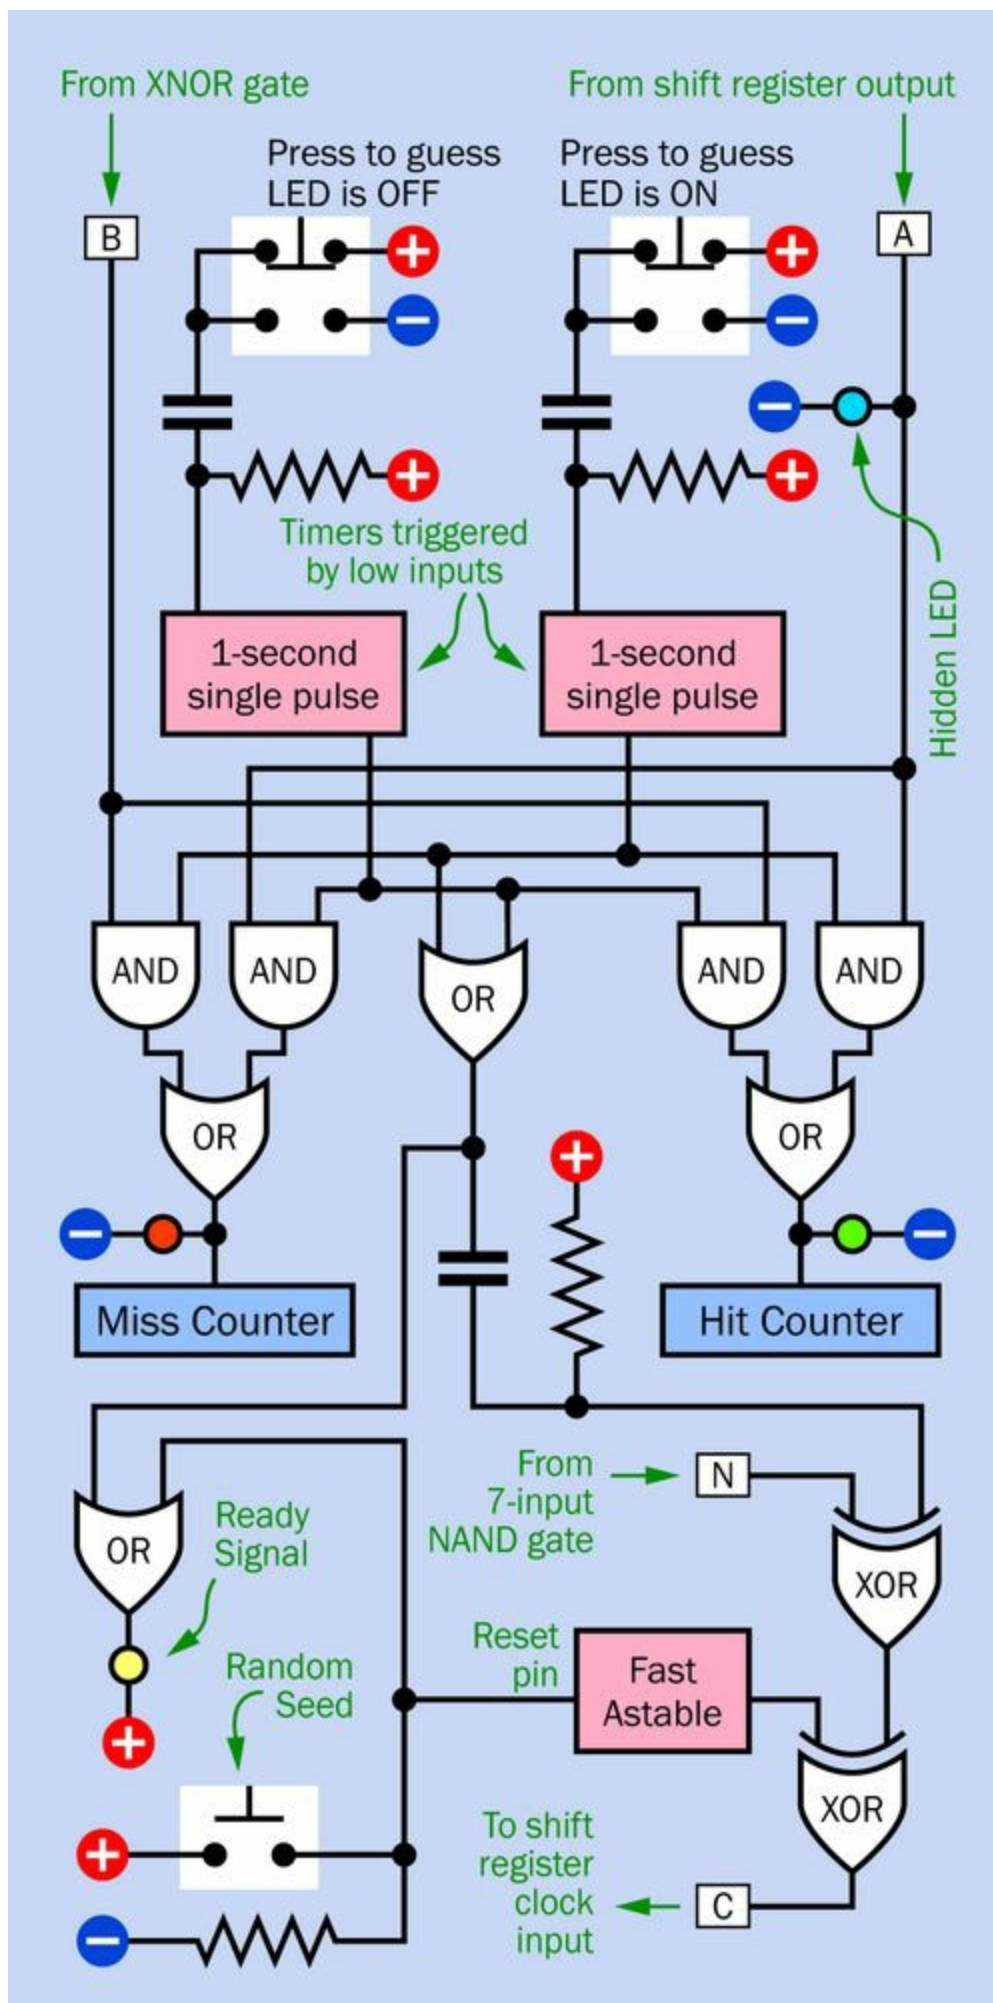
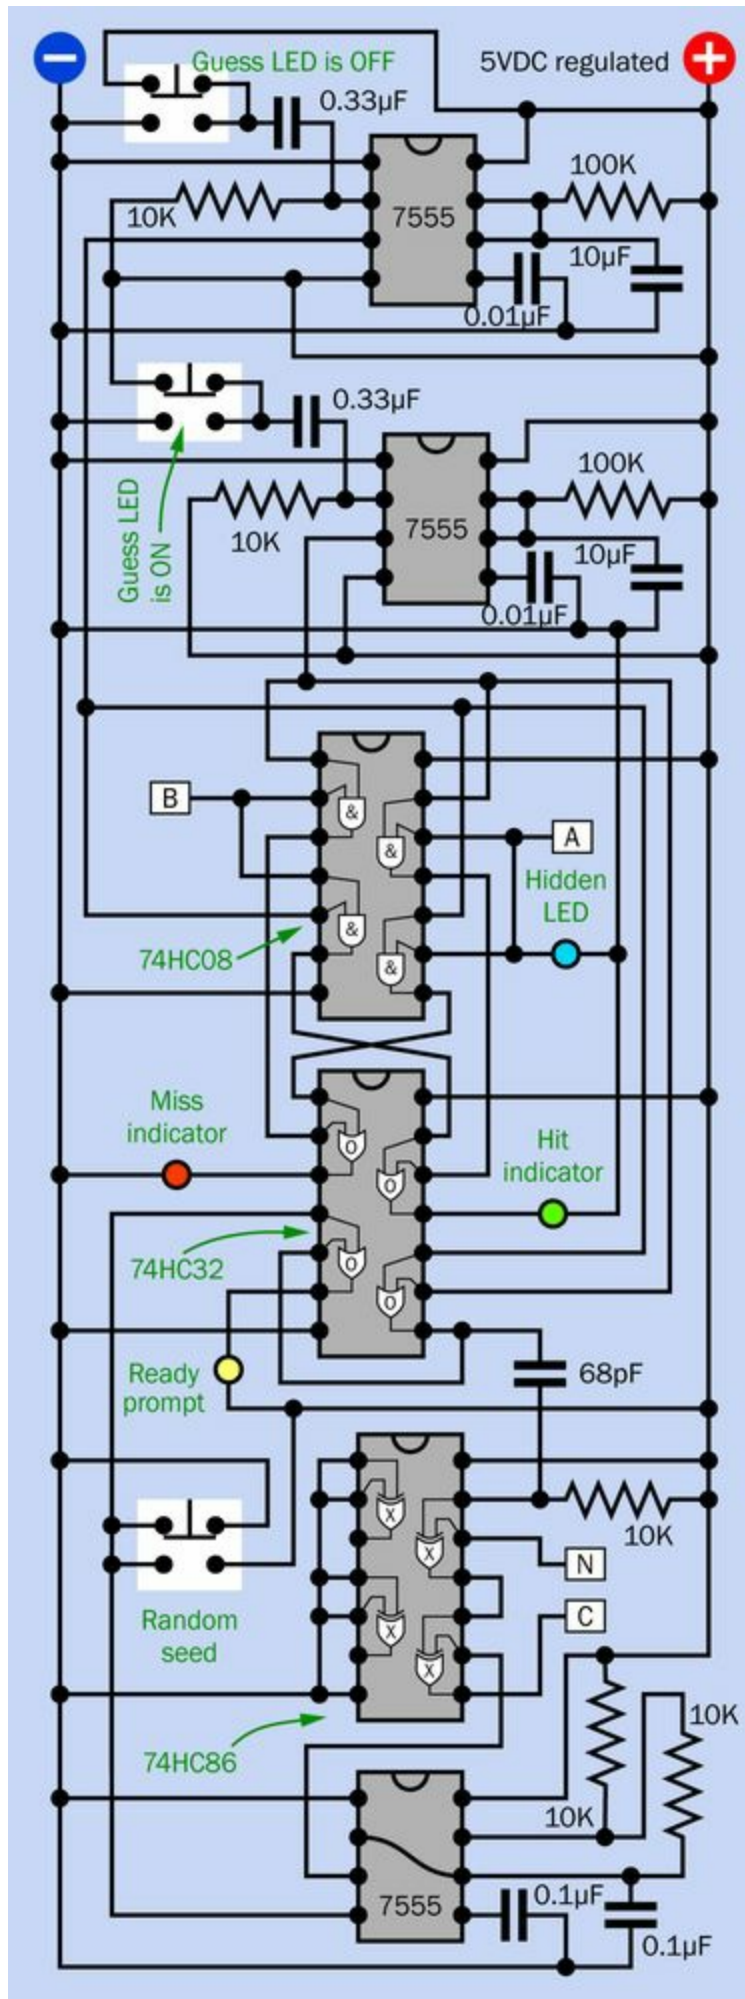

Figure 36-3. Part 2 of the logic diagram for the single-person Telepathy Test will process user input, provide feedback, and
Figure 36-6. The second part of the schematic for the single-person Telepathy Test.
Part 2 of the logic diagram is shown in **Figure 36-3**. In this diagram, timers are colored pink for easy identification, and there are four input/output lines labelled to connect with the ones in **Figure 36-1**.
**Figure 36-6** shows how to put together components that will perform the logical operations in **Figure 36-3**. You'll notice that I had to squeeze the components together to fit them into the available space. Still, there are only six chips, which should easily fit on a breadboard, and the connections are relatively simple.